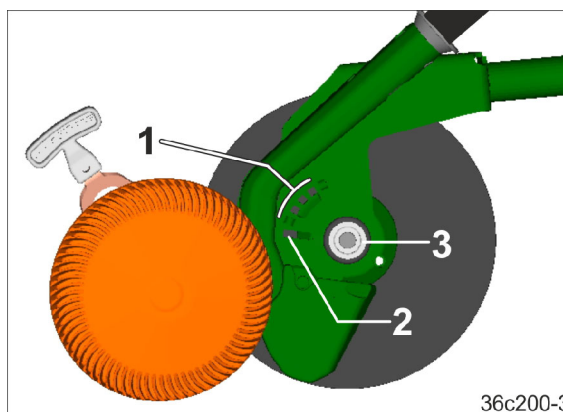

Fig. 180
1. Engage the shoulder of the lever beyond the group of holes (Fig. 180/1) into the elongated slot (Fig. 180/2).
2. Move the depth control disc/wheel in the elongated slot (Fig. 180/2) until the depth control disc/wheel is released from the locking mechanism (Fig. 180/3).
1. Insert the depth control disc/wheel on the locking mechanism (Fig. 180/3). In doing so, the shoulder engages in the slotted hole (Fig. 180/2) of the coulter.
2. Move the depth control disc/wheel in the elongated slot (Fig. 180/2) until the depth control disc/wheel engages in the locking mechanism. A light knock on the centre of the disc helps to latch it into position.
3. Using the lever, pull the shoulder out of the slotted hole and insert it in the required bore (Fig. 180/1).